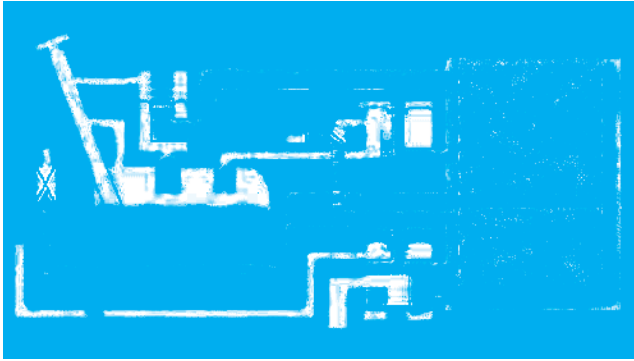

Figure 6: When the VP sensor VSV is OFF, the system can monitor the canister and purge lines for leaks. This is done after the purge VSV is turned OFF.
- This lower pressure area is monitored by the VP sensor. If the pressure change is large enough, a code P0440 is set, indicating a leak in the canister (Figure 6).